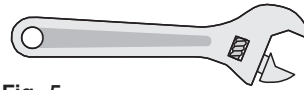

Fig. 5
- Adjustable wrench or channel lock pliers (Fig. 5).